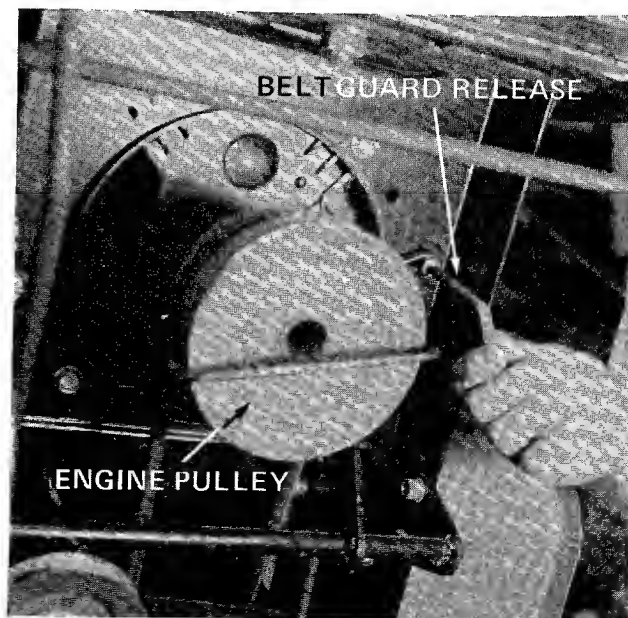

FIGURE 19.
3. Unscrew the belt guard release next to the engine pulley. See figure 19.